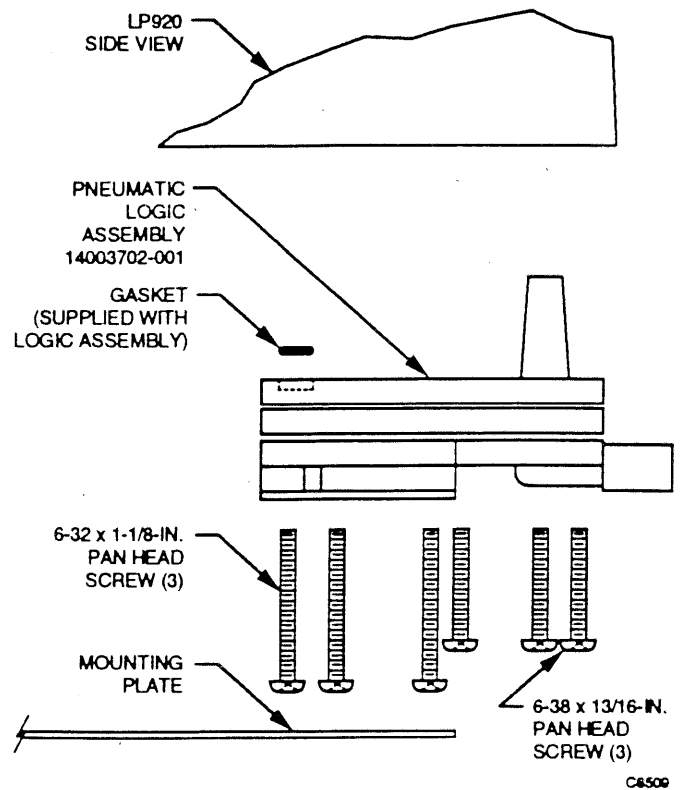

Fig. 9. LP920 Exploded View Showing Pneumatic Logic Assembly.
3. Remove six holding screws, Pneumatic Logic Assembly and Gasket (Fig. 9).